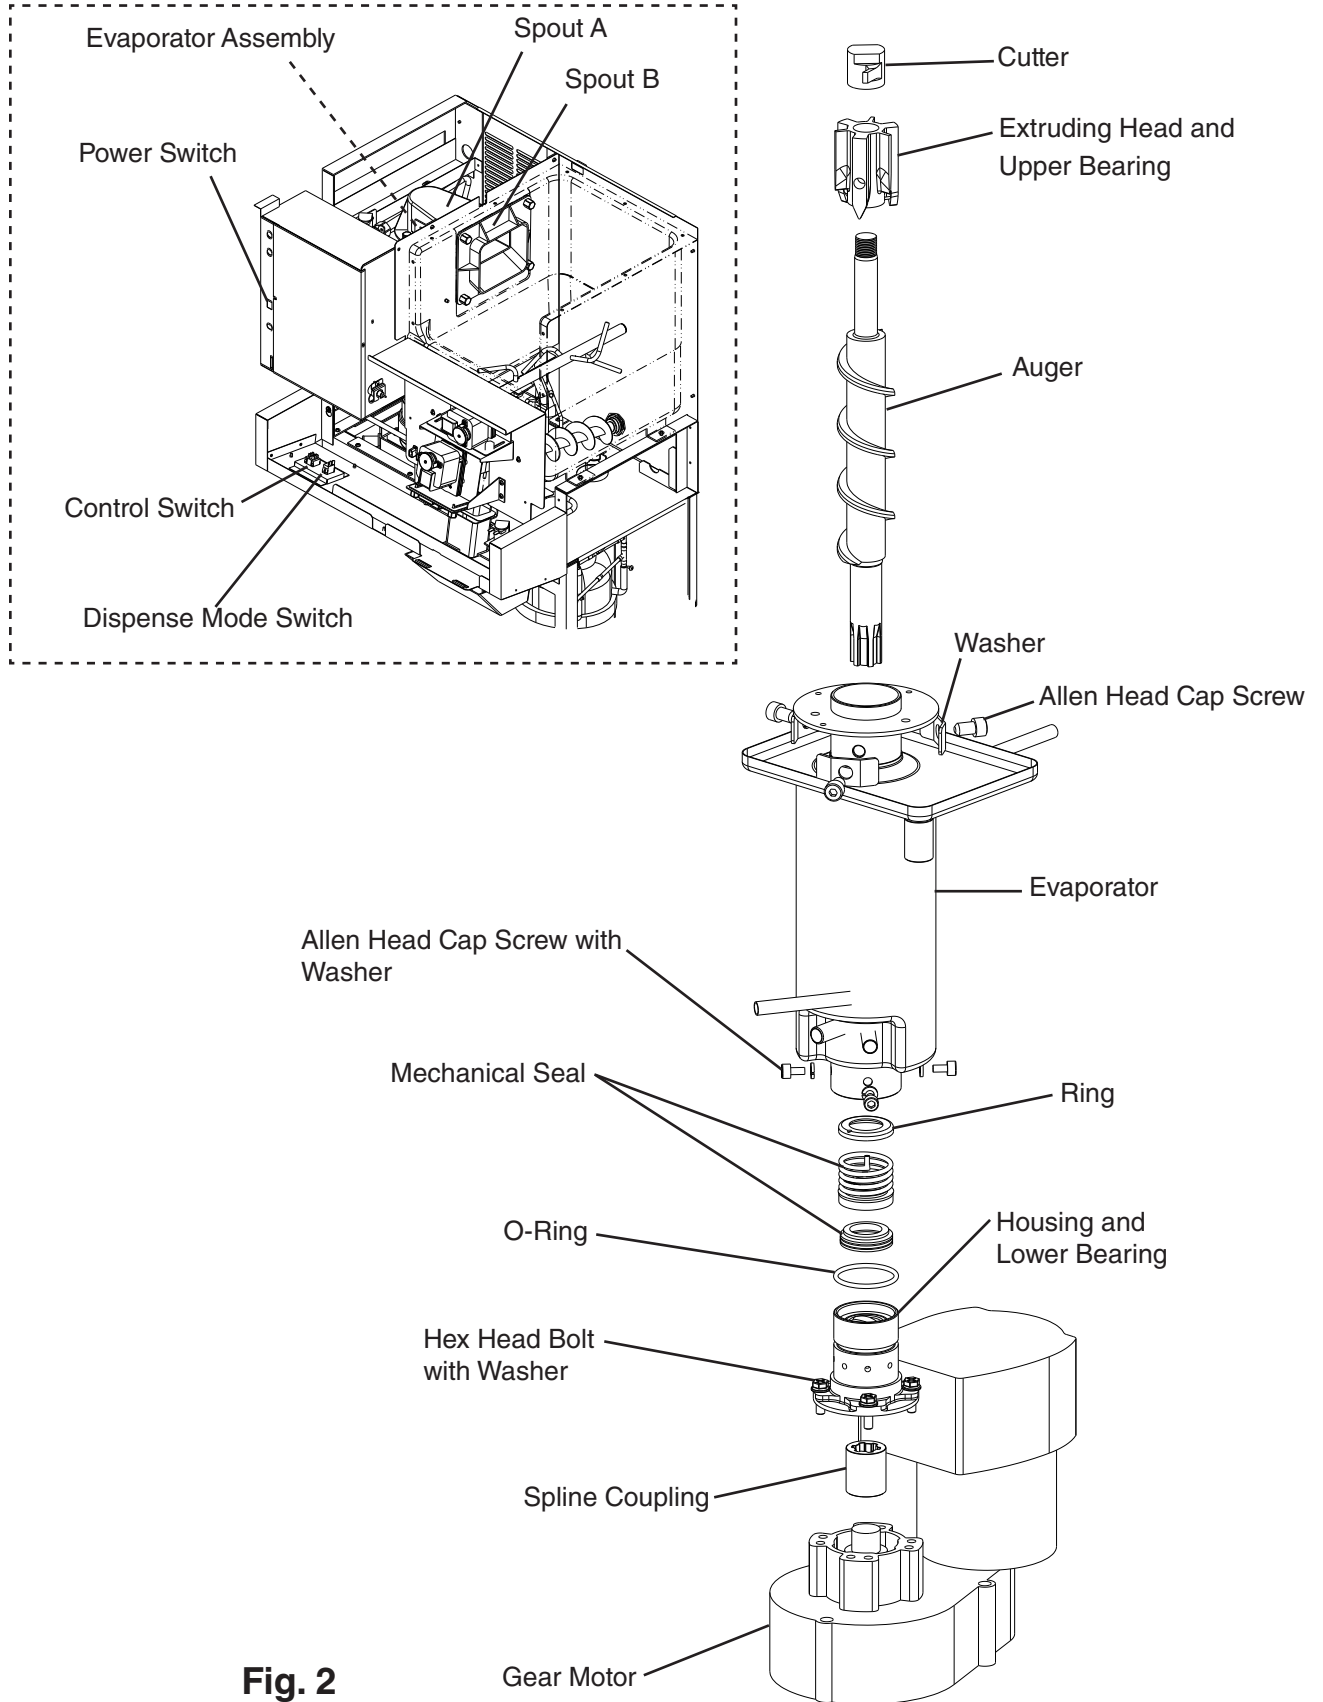

Fig. 2
- 2) Remove the front cover of the storage bin. Remove spout B, then remove spout A and the cutter. See Fig. 2.
- 3) Remove the front cover of the storage bin. Remove spout B, then remove spout A and the cutter. See Fig. 2.
- 3) Remove the front cover of the storage bin. Remove spout B, then remove spout A. See Fig. 2.
- 5) Remove the front cover of the storage bin. Remove spout B, then remove spout A. See Fig. 2.